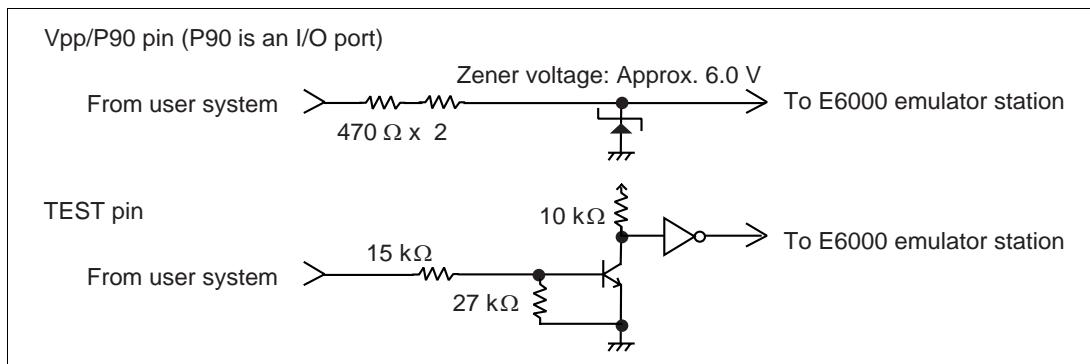

Figure 10 Vpp/P90 and TEST Pin Protection Circuits
5. The flash memory functions of the H8/3644 series are not supported by the emulator. Therefore, do not apply 12 V to Vpp/P90 and TEST pins. If 12 V is applied, the emulator will detect it as the test mode. The Vpp/P90 and TEST pins have circuits for protection against 12-v application, as shown in figure 10.